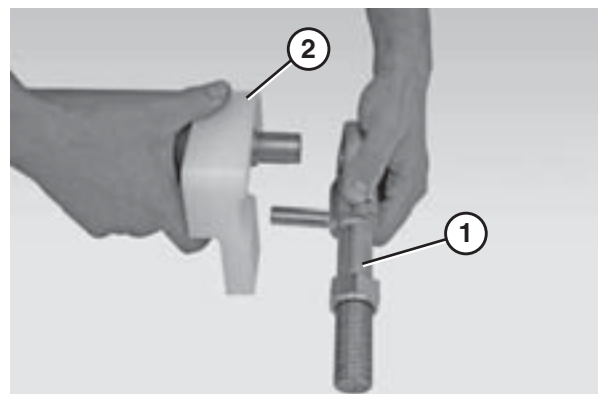

Figure 72
5. Remove the bearing shafts (Figure 72, item 1) and both pinch guards (Figure 72, item 2).